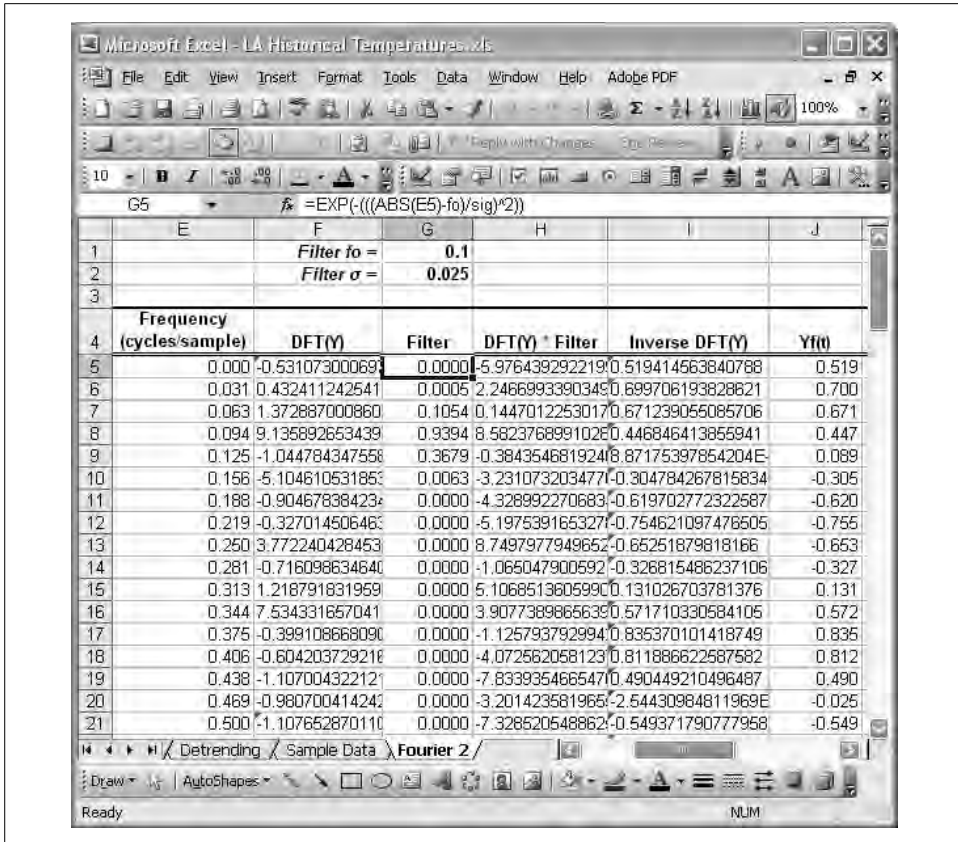

Figure 6-36. Band pass filter calculation
A suitable filter for this example would be a band pass filter centered at a frequency of 0.637 Hz or 0.1 cycles per sample. I used a standard Gaussian band pass filter to calculate the filter values shown in Figure 6-36.
contained in the DFT(Y) column are actually text values representing complex numbers. Therefore, you have to use one of Excel's built-in complex number functions to perform the multiplication. The appropriate function is the IMPRODUCT function. For example, the cell formulas contained in the column labeled DFT(Y) * Filter in Figure 6-36 are of the form =IMPRODUCT(F5,G5), where the corresponding values in columns DFT(Y) and Filter are used as arguments. The results are complex numbers (text values) contained in the column DFT(Y) * Filter.
Open the Fourier Analysis tool as explained earlier. Then, referring to Figure 6-36, select the cell range containing the column labeled DFT(Y) * Filter as the input cell
Press OK when you're done and you should see results that look like those shown in column Inverse DFT(Y) in Figure 6-36. The results of the inverse transform are real numbers in this example; however, Excel formatted them as text (i.e., as the real part of an imaginary number). Use the IMREAL function to convert these imaginary numbers to values you can use. Column Yf(t) in Figure 6-36 contains the results. The cell formulas in that column are of the form =IMREAL(I5).